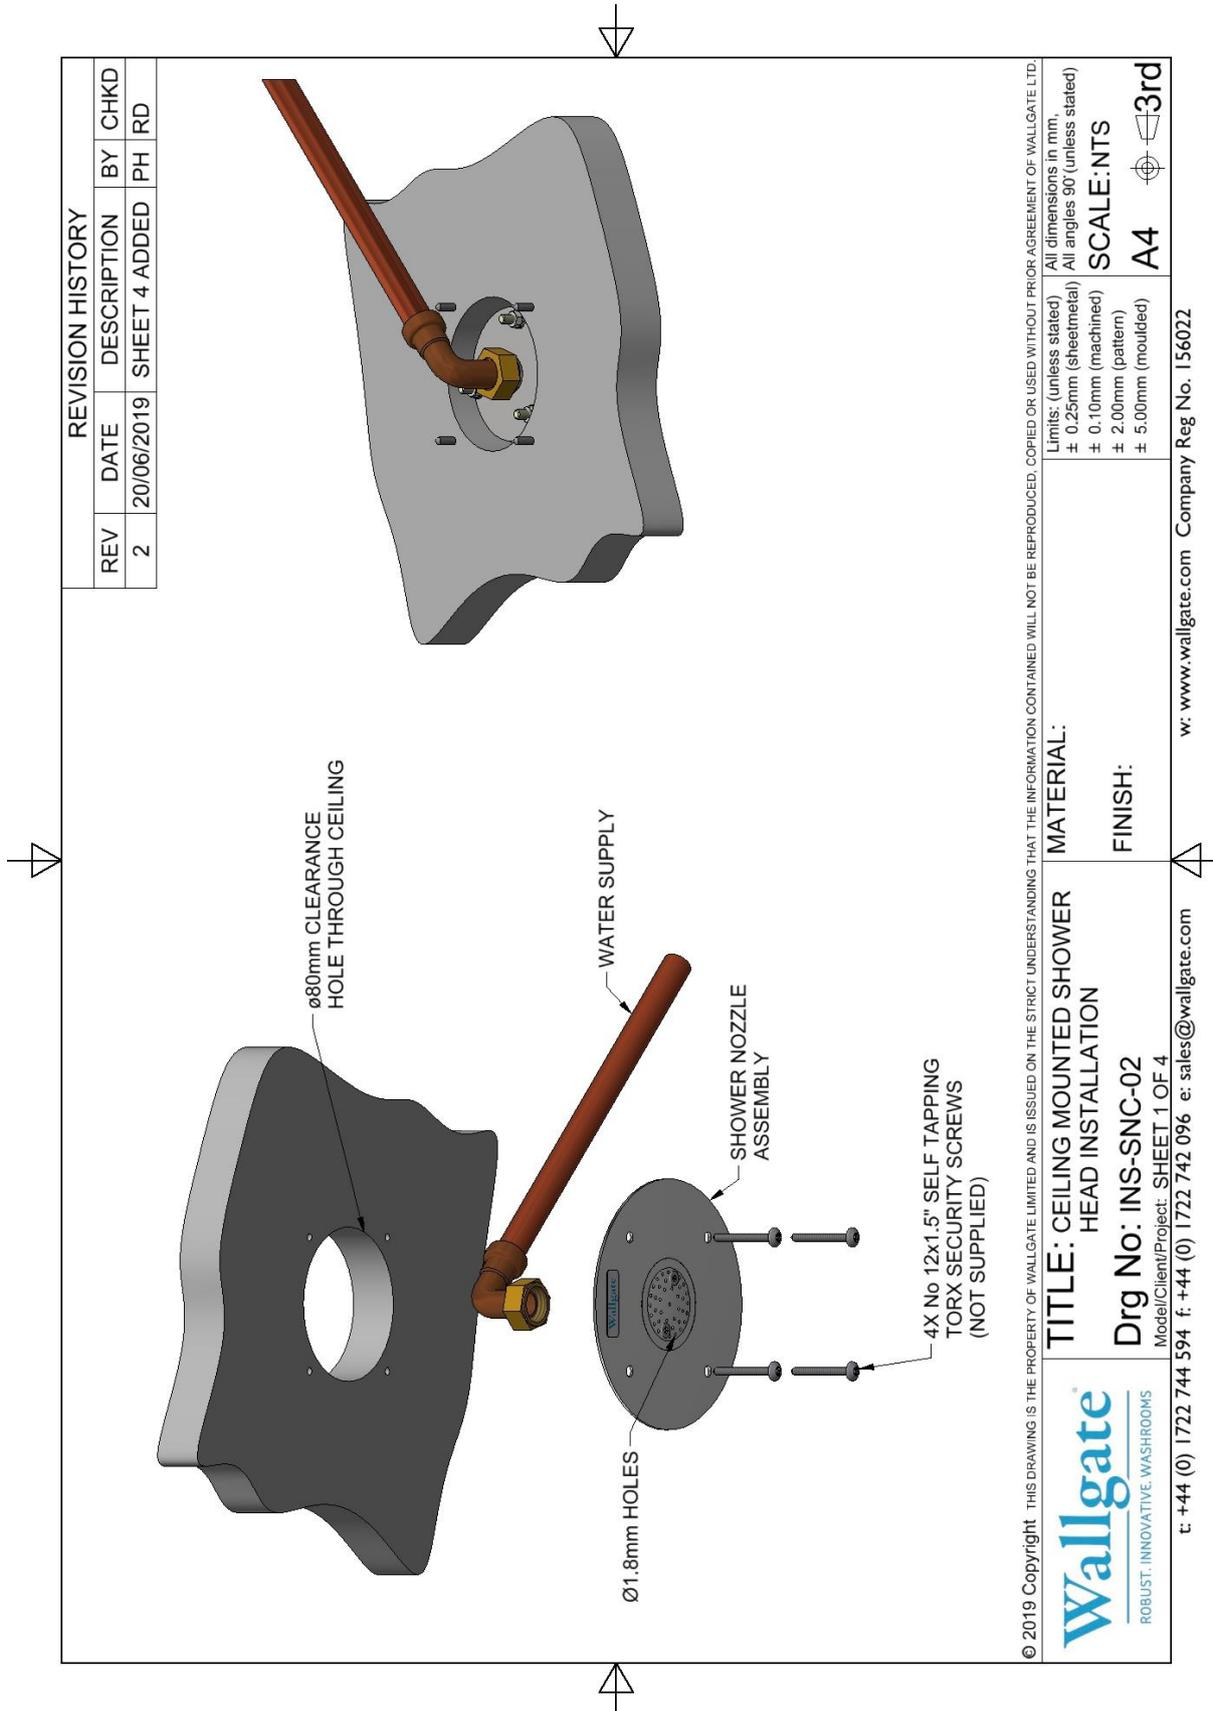

Figure 3: Ceiling mounted shower head installation (Method 1).
- Measure, mark and cut aperture for the plate housing and fixings (as shown in figure 3, 4, 5 or 6 depending on fixing method).
NOTE: The ceiling mounted shower requires installation following the guidelines in figures 3 - 6 depending on the mounting method.
(See Figure 3):
2. Figures 3, 4 and 5 are for illustration only, installation should be made in accordance with site-specific plumbing requirements.